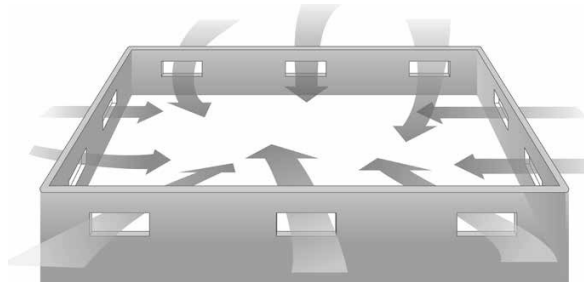

Fig. 2
- Crawl space must be a minimum of 24" (600 mm) from the ground to underside of joists. A ground cover of 6-8 mil black polyethylene film is essential as a vapor barrier with joints lapped six inches and taped. The crawl space should have perimeter venting equal to a minimum of 1.5% of the crawl space square footage. These vents should be properly located to foster cross ventilation (see figure 2).